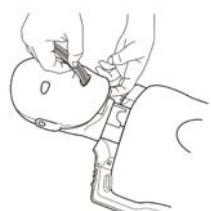

Figure 5
- Insert the folded Lung-Bag into the mouth of the manikin (Figure 5).